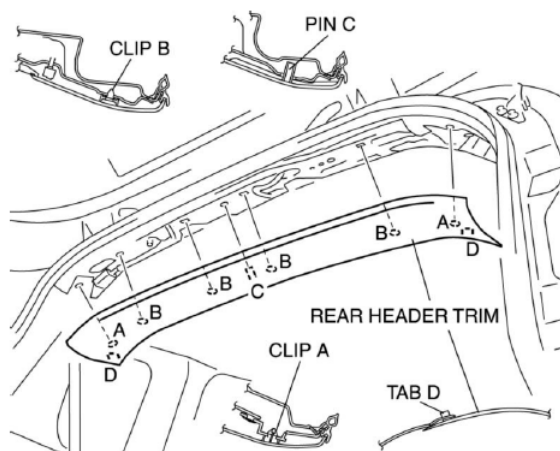

FIGURE 43
- 1.) PULL THE REAR HEADER TRIM AND DETACH CLIPS A AND B, PIN C, AND TABS D. (SEE FIGURE 43)
- 2.) REMOVE THE REAR HEADER TRIM. (SEE FIGURE 43)